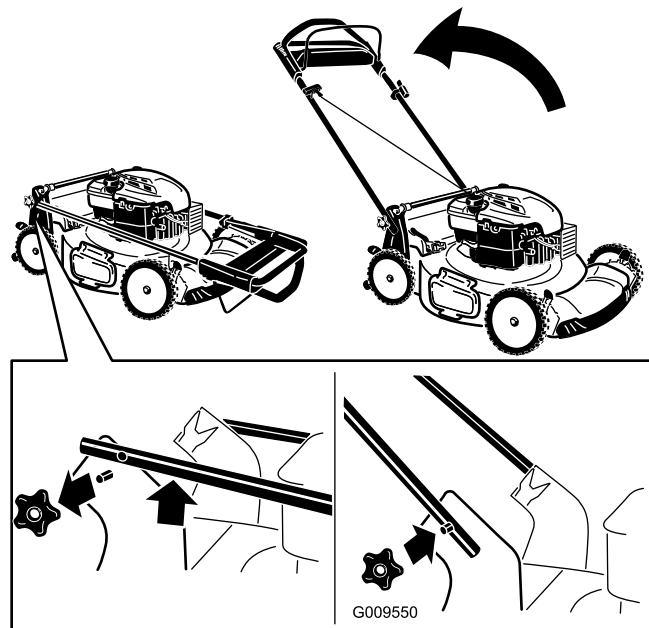

Figure 4
1. Remove the handle knobs from the mower housing (Figure 4).
3. Install and tighten the handle knobs that you removed in step 1 (Figure 4).